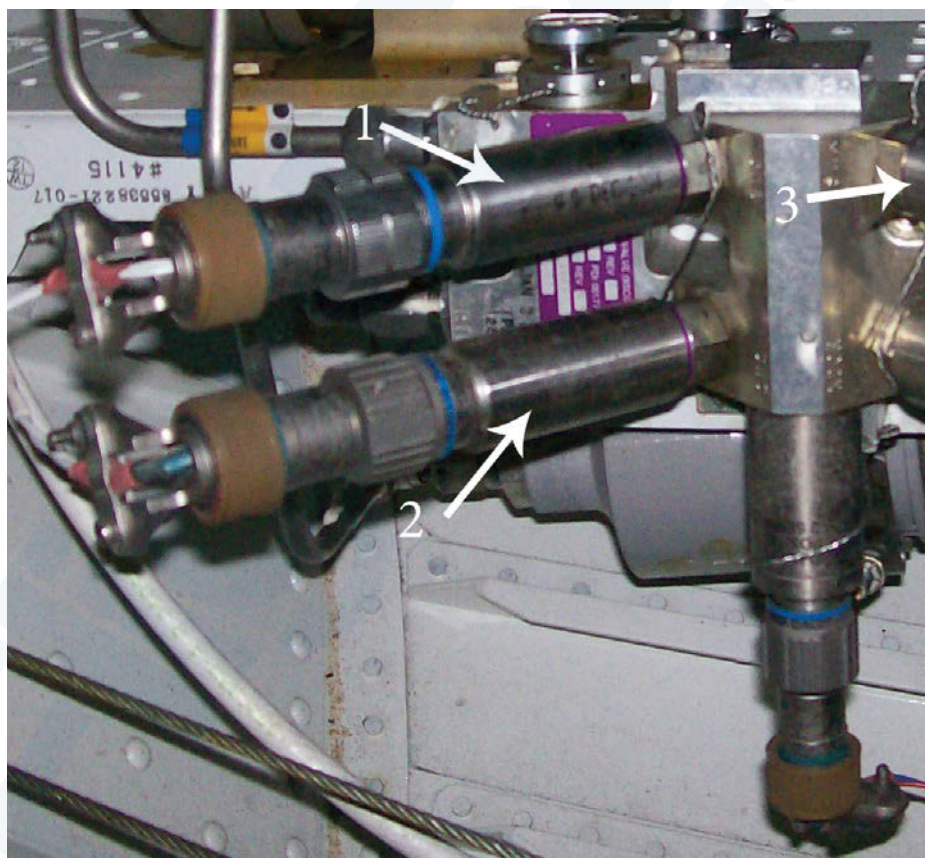

Figure 29-46. Pressure Switches
- Figure 29-46. Pressure Switches.